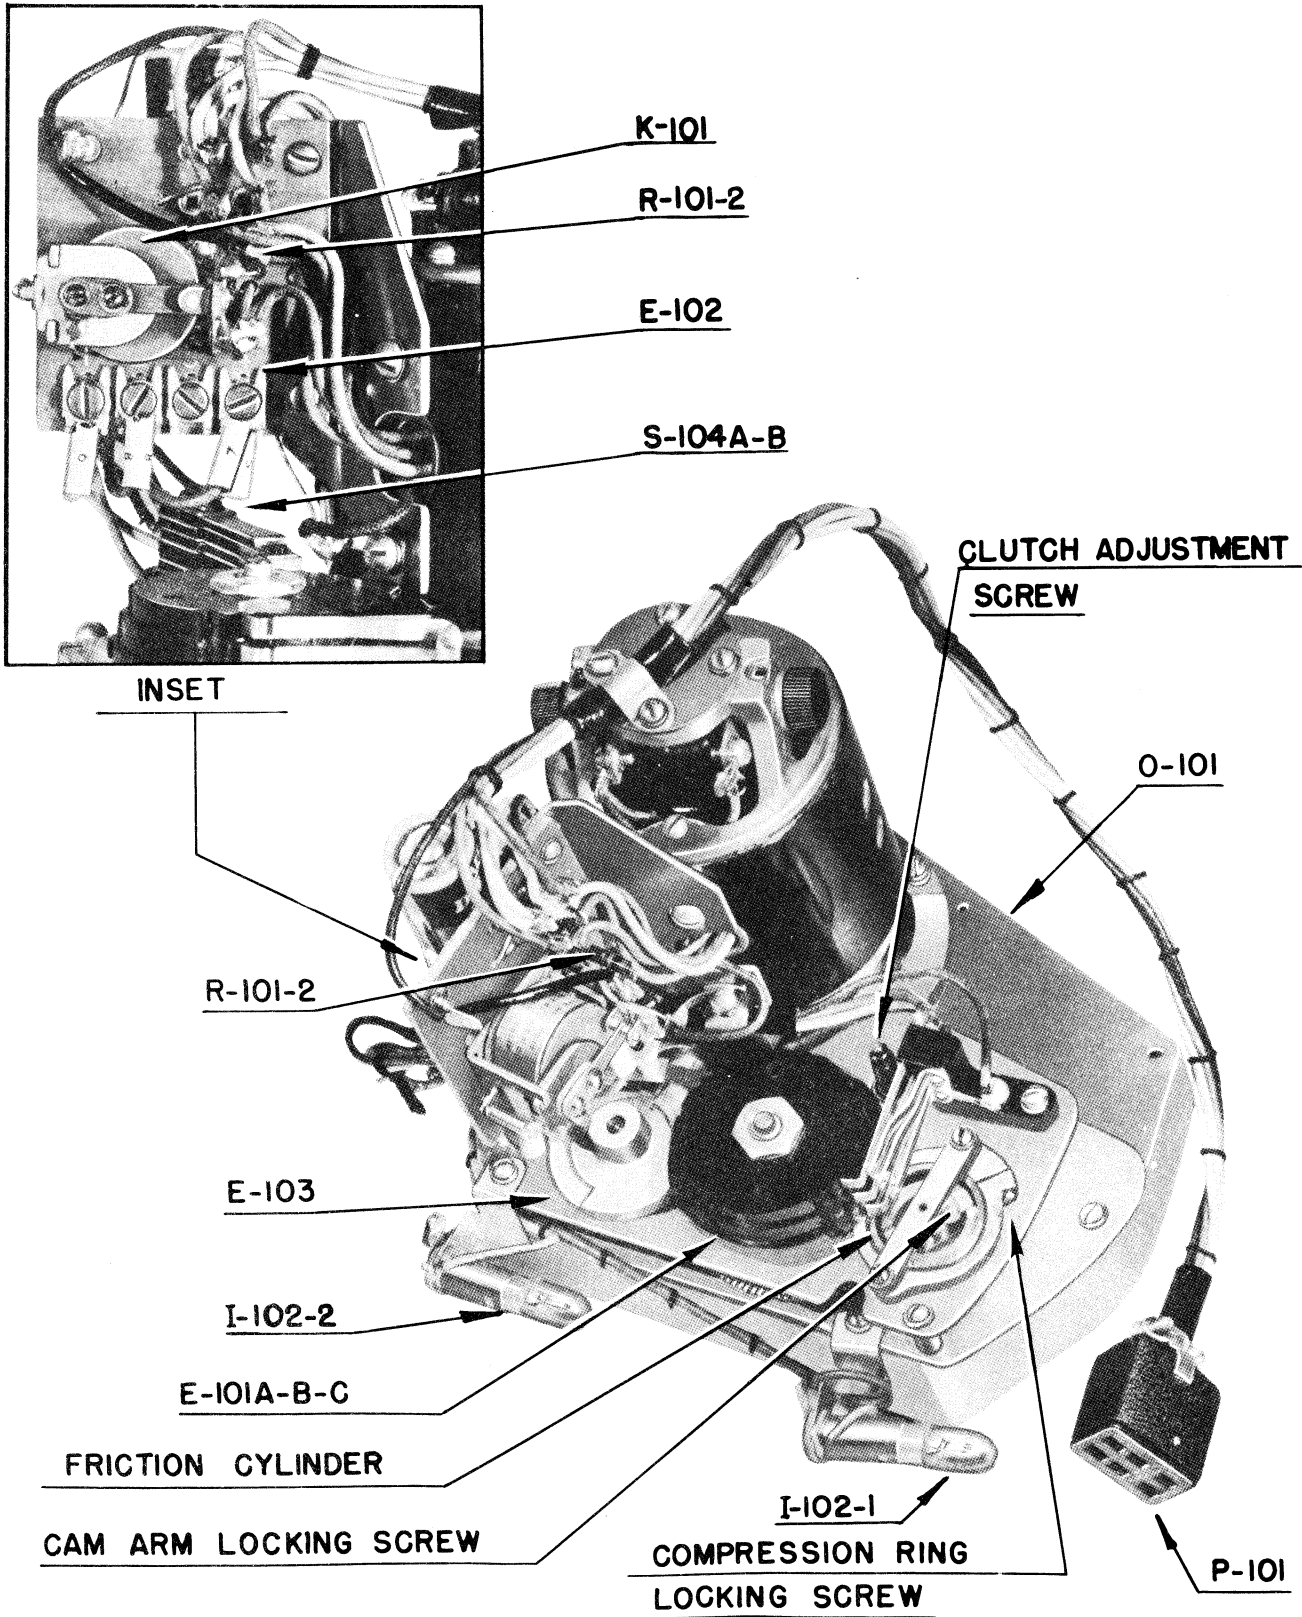

Figure 22—Gear Train and Keying Mechanism
*d. If adjustment of the timing mechanism is ABSOLUTELY necessary, first try to correct by use of the fine adjustment. Loosen the compression-ring locking screw and rotate the friction cylinder; the conical inner surface causes the braking action to increase when the cylinder is rotated clockwise (lower speed) and causes the braking action to decrease when rotated counter-clockwise (higher speed). Rotate the friction cylinder by using a scribe or other sharp-pointed object in the holes provided in the cylinder (see fig. 22). Following this adjustment tighten the compression ring locking screw.*
*e. Loosen the cam-arm locking screw on the rotating assembly (see fig. 22) and move the cam arm to right or left, thus changing the spring tension. Turn clockwise for lower speed and counterclockwise for higher speed. Tighten the cam arm locking screw.*
*f. Synchronize the code wheel with the cam switch so that the cam switch completes its change-over in the one-second interval during which the code-wheel contacts are traversing the 72-degree space on the code wheel (see fig. 22). Make this adjustment as follows:*
(1) Loosen the code-wheel lock-nut so that the code wheel turns freely on its shaft.
(2) Turn the crank until the cam-switch contacts are exactly in the center of their vertical travel (all cam-switch contacts open).
(3) Turn the code wheel until its contact operating fingers rest exactly in the center of the 72-degree space.
(4) Lock the code wheel in this position by tightening the lock-nut.